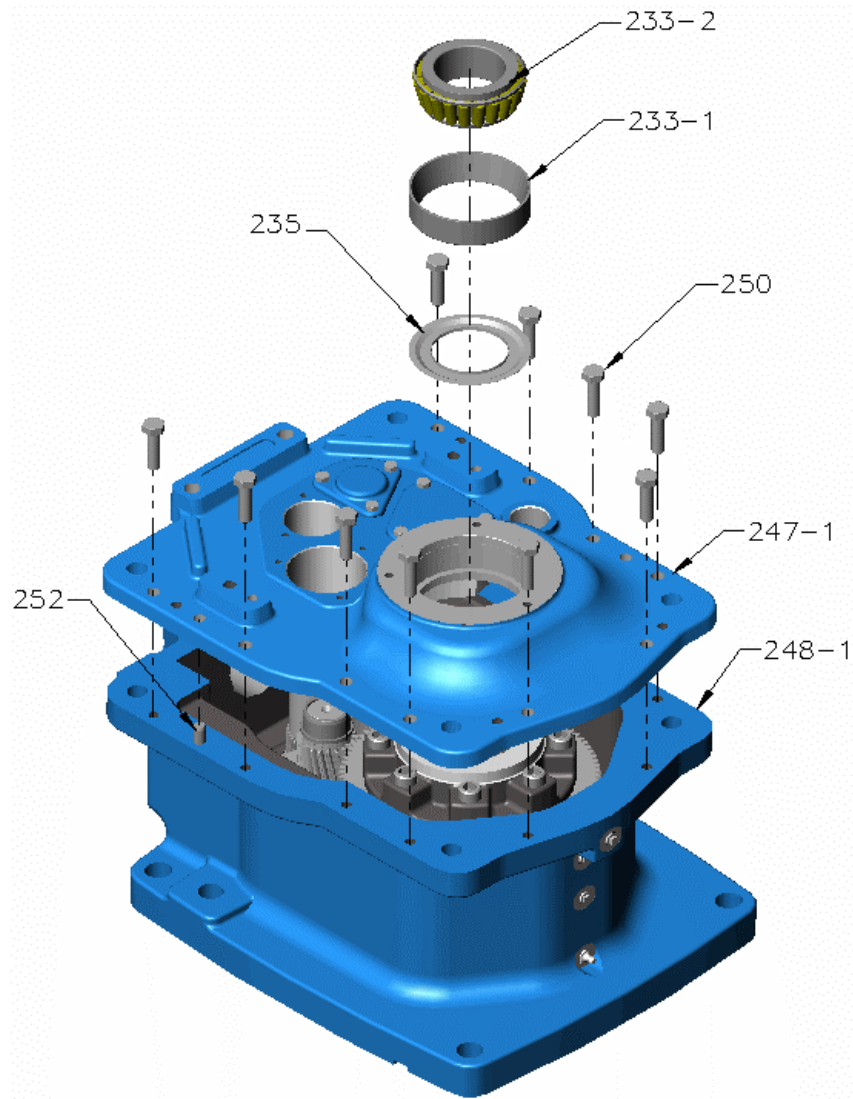

Figure 17 – Case Lid
- N. Install case lid **[247-1]** (refer Figure 17).
- (1) Apply Three Bond Sealant 1215AA or equivalent to case bottom flange.
- (2) Put case lid **[247-1]** on case bottom.
- (3) Install dowel pins **[252]**.
- (4) Install bolts **[250]** and torque-tighten to value given in Table 1.
- O. Install at output shaft (refer Figure 17):